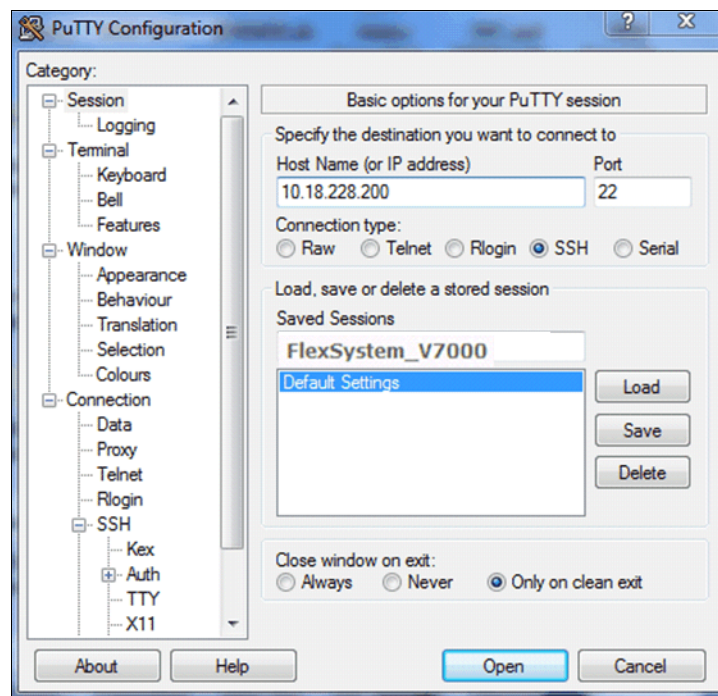

Figure A-12 Enter session information
6. In the right pane, enter the host name or system IP address of the IBM Flex System V7000 Storage Node cluster in the Host Name field, and enter a session name in the Saved Sessions field (Figure A-12).